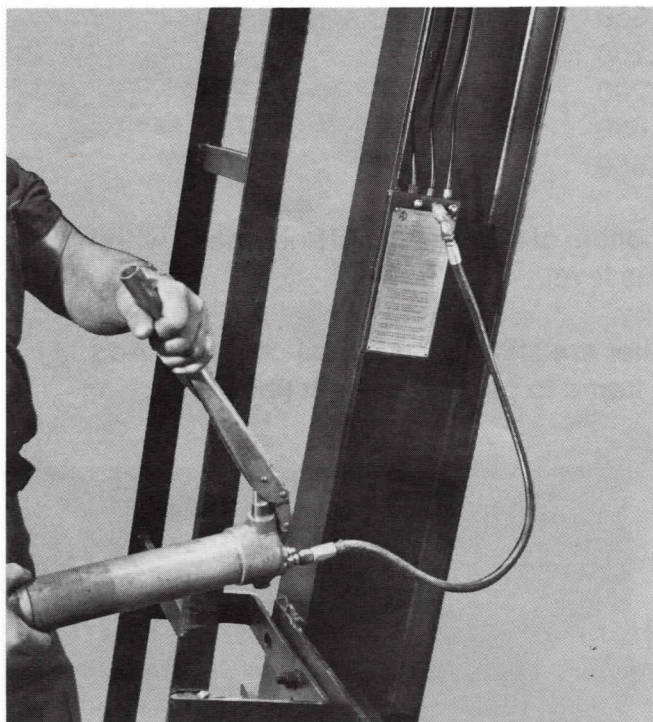

Fig. 20
- 29. Lubricate saddle, equalizer and wrist pin bearings with AAR M-942 or Grade "0" lithium base grease. Pump grease slowly to avoid damage to grease seals. Use ground lubrication system to grease saddle and equalizer bearings, Fig. 20, for units with samson post over 72" tall.